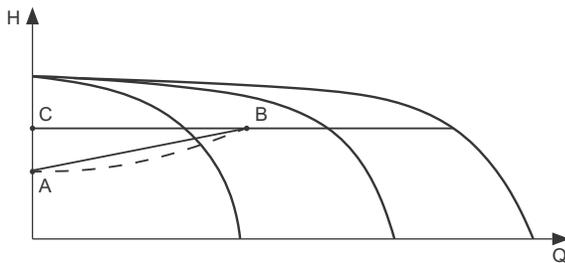

Fig. 37 Proportional pressure
- Choose the control curve function ("Linear" or "Quadratic"), see fig. 37.